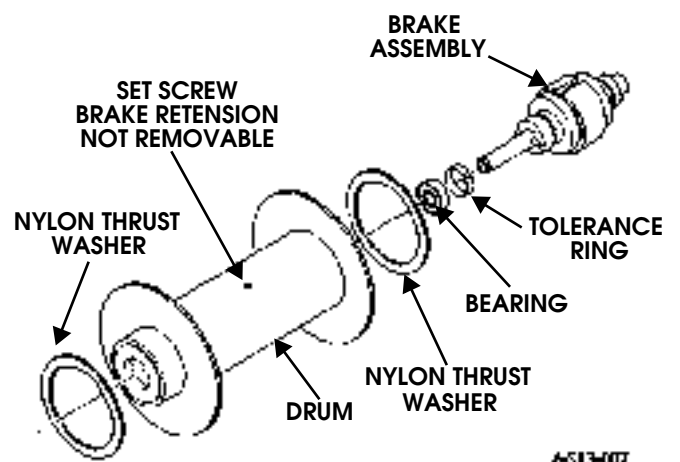

Figure 9-175: Thrust Washers and Brakes
16. Apply grease to drum bushings, seals, and output spline (Figure 9-175).